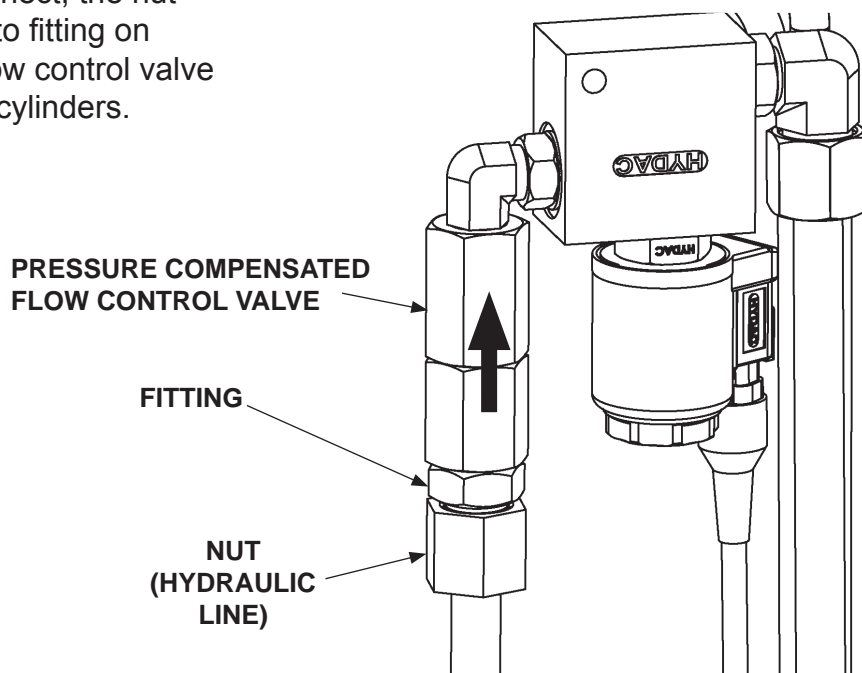

FIG. 19-1
2. Loosen, but do not disconnect, the nut connecting hydraulic line to fitting on pressure compensated flow control valve (**FIG. 19-1**) at top of both cylinders.
4. Tighten nut on hydraulic line (**FIG. 19-1**).